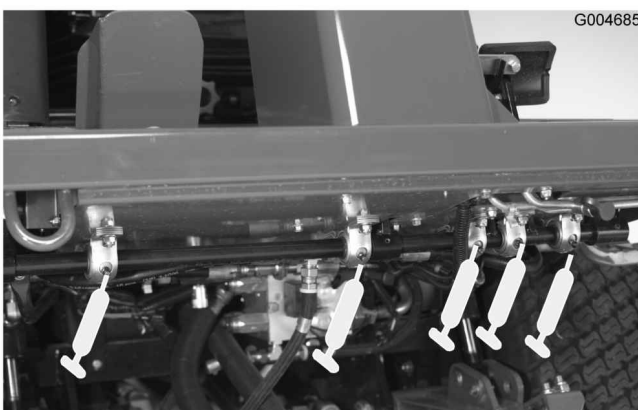

Figure 34
- Brake shaft pivot bearings (5) (Figure 34)